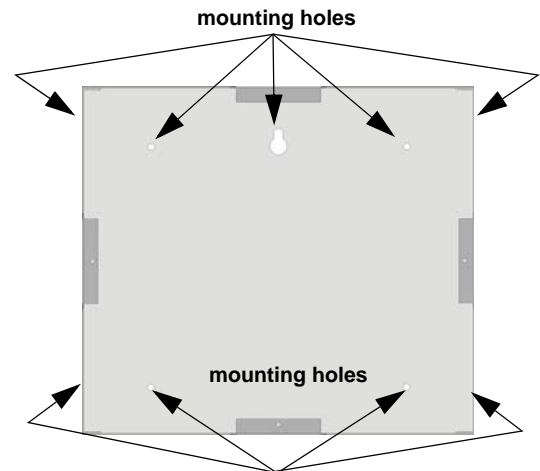

Figure 2: Backbox Mounting Holes
1. The backbox measures 9-1/4" W x 8-3/8" H. The backbox can be mounted prior to the complete installation of the 6860 using any of the mounting holes shown in Figure 2.